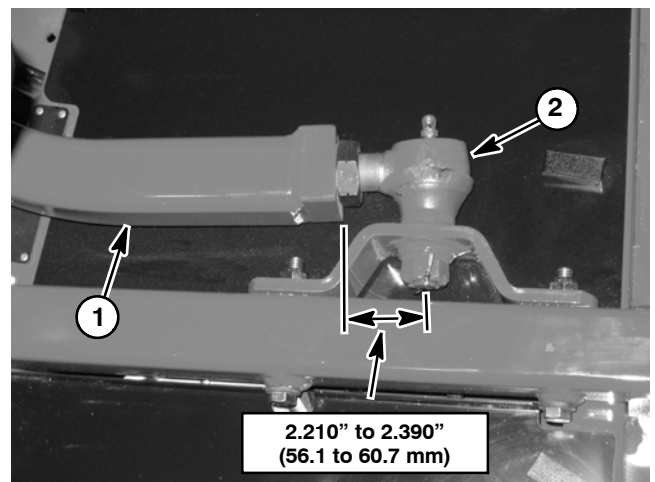

Figure 5
6. If removed, install ball joint to lift arm. Distance from end of lift arm to center of ball joint should be from **2.210" to 2.390" (56.1 to 60.7 mm)** (Fig. 5). Make sure that ball joint is horizontal and that stud is centered in ball joint. Install deck before torquing ball joint jam nut (item 24).